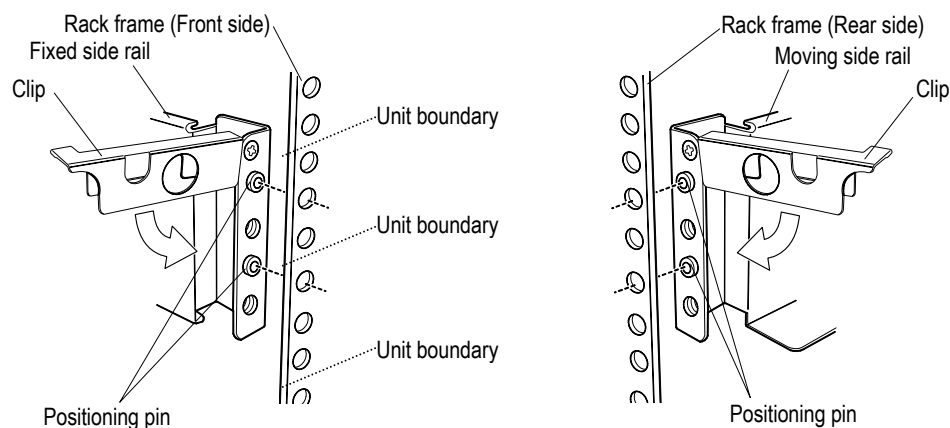

Figure 2.2.23 Installing Rack Rails (Circular Hole) for Drive Box (2U)-2
- (ii) Fit the positioning pins for the fixed side rail (R) and moving side rail (R) in the holes in the position to be installed on the right side of rack frame (at 4 places in front and rear). (See Figure 2.2.23.)
- (iii) Close the clips for the fixed side rail (R) and moving side rail (R), and then install them in the rack.